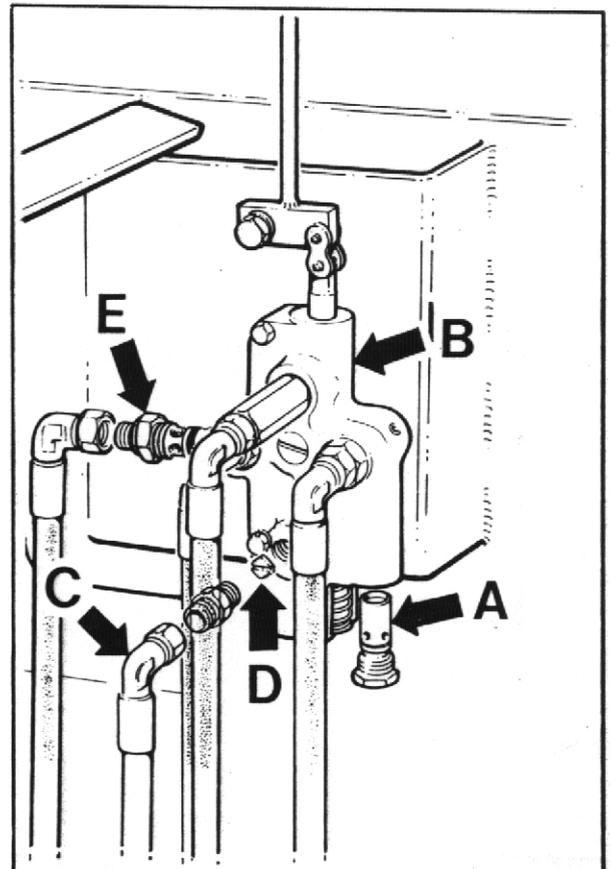

FIG. 10
4. Remove relief valve cartridge (A) (hexagon head) from the bottom of the control valve (B) (See fig.10) and replace with a new one.
5. Remove hose adaptor (C) from control valve (See fig.10), remove hexagonal orifice plate (D) and wash in white spirit. Dry using moisture-free compressed air. DO NOT poke wire etc. into the orifice. Re-fit plate and hose adaptor with slot of orifice plate facing outwards.
6. Remove relief valve cartridge (A) (hexagon head) from the bottom of the control valve (B) (See fig.10) and replace with a new one.
7. Replace flow control valve (E) (See fig.10). (FOUR A50/60/ 80 only)